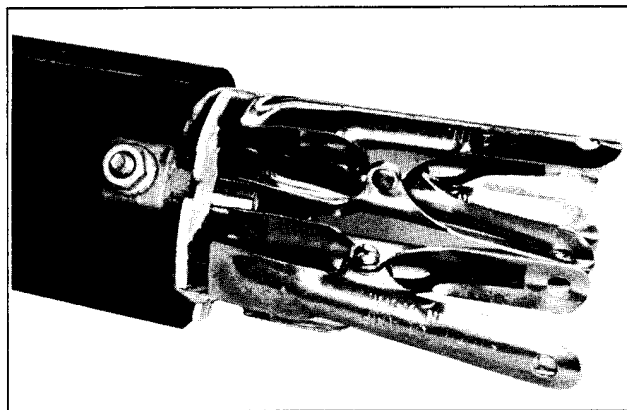

Figure 5-26. Using Clamps to Hold Brushes in Place
Reassembly is essentially the reverse of the disassembly procedure. If brushes (9 and 10) and springs (8) have been released from holder, use clips or clamps as shown in Figure 5-26 to hold them in place while installing armature. Note that drive end of frame is notched to fit drive end cover. Line up positioning notch in the brush holder assembly with terminal insulator. Line up positioning mark on commutator end head with motor terminal. Install thru bolts and replace unit on engine. Reconnect cables to solenoid switch and battery.